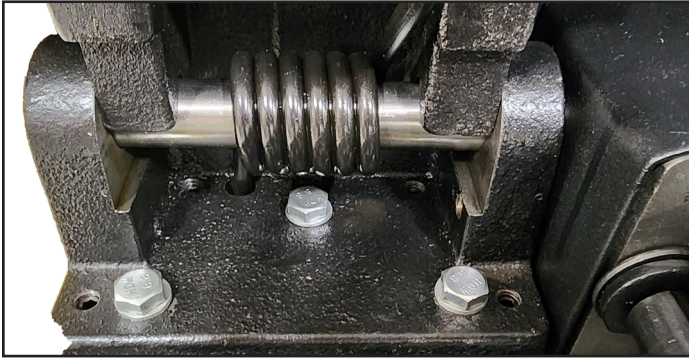
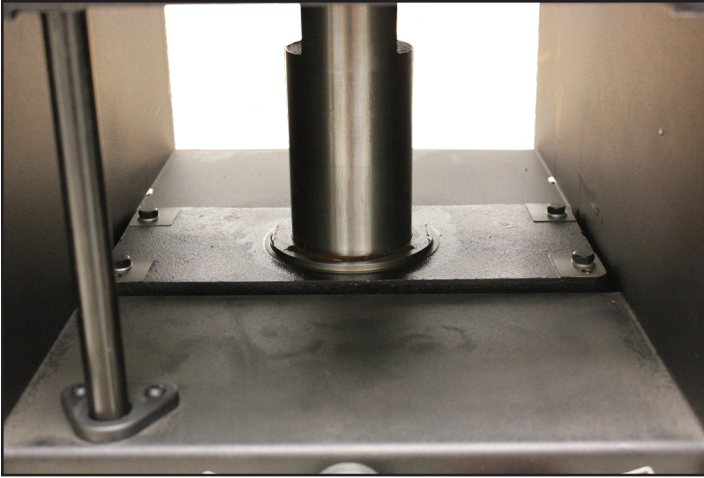

Figure 14: Infeed Table Adjustment.
Figure 19: Planer Table Adjustment.
2. Elevate the jointer table, along with the fence and cutterhead guard, into a vertical position as outlined in figure 14. Pivot the Dust Chute (#66) onto the infeed table to facilitate adjustments Fig. 19.
NOTE: The Front Guard, with the removal of its 2 screws (#52), can be rotated out of the way, leaving the dust collector's spring-loaded Locating Pin (#51, P) intact (FIG. 19). The Rear Guard can be removed once the 2 locating screws are detached by lowering the jointer table and then removing the fence assembly.